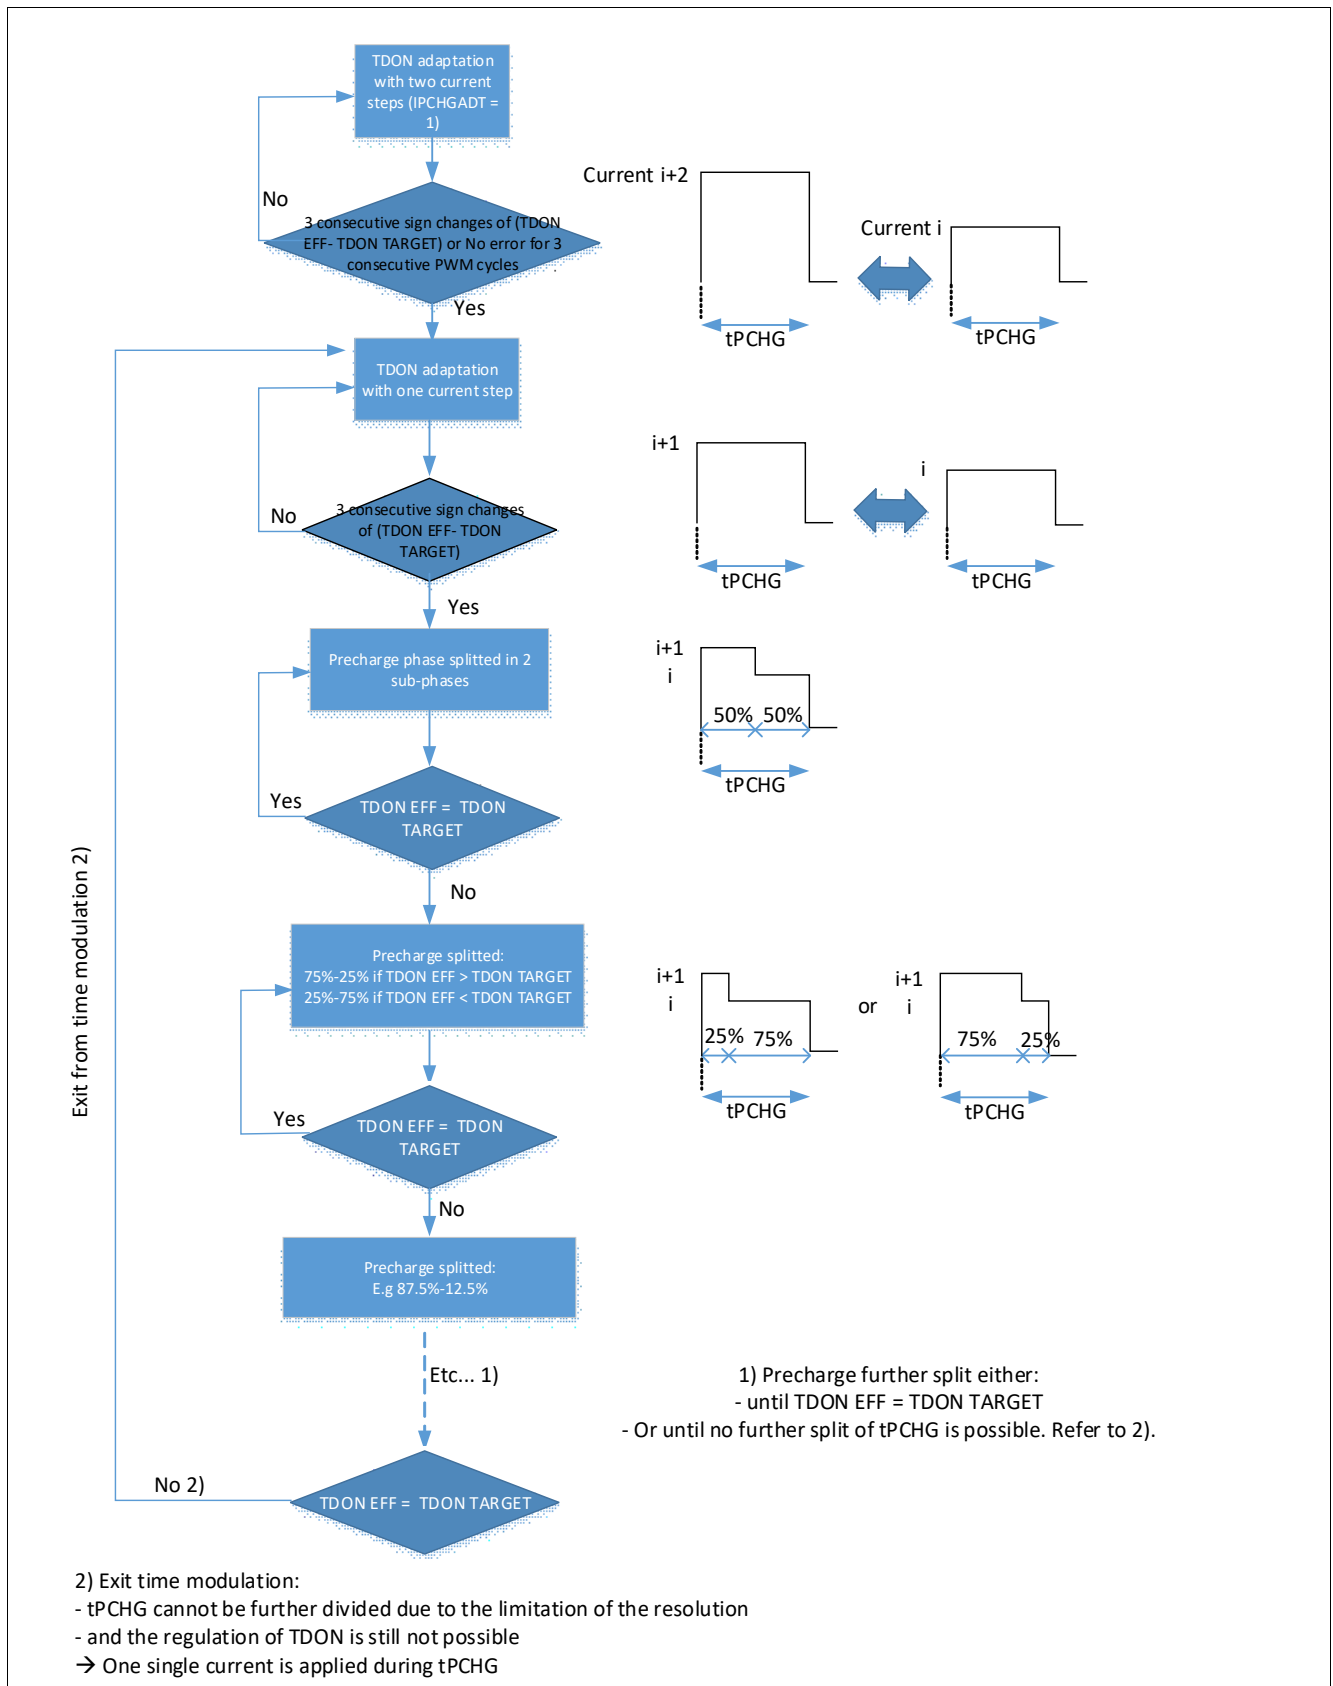

Figure 66 Principle of the time modulation of the precharge phase, DEEP\_ADAP = 1, AGC = 10B or 11B
**Figure 66** describes the principle of the time modulation applied to the precharge phase. The same principle is also applied for the regulation of the pre-discharge phase.